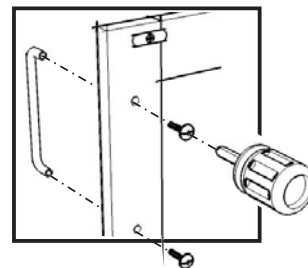

Figure 1
Assemble Front Piece (H1), (H2) and Front Rail (K). (See figure 1)
Attach Pull Handles to the Door (W) and (X) using Machine Screws. (See figure 1)
Using a philips screwdriver, insert 1" screws into the pre-drilled holes as shown, tighten half way. (See the figure 1)
Using a Phillips screwdriver, insert 1" screws into the pre-drilled holes as shown, tighten half way. (See the figure 1)